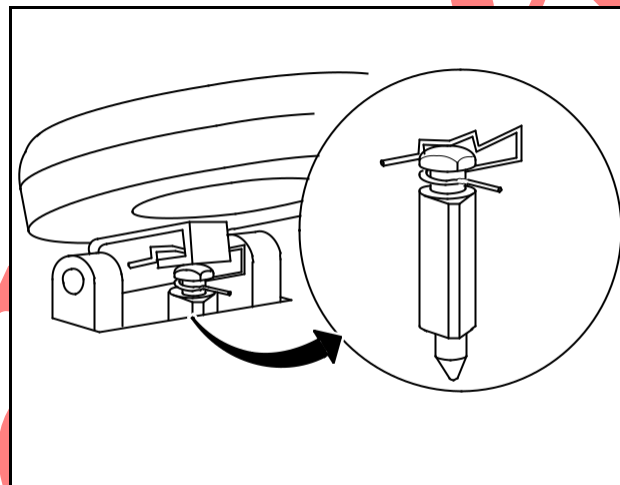

Fig. 288 - INSTALLING FLOAT AND INLET NEEDLE
6. Install inlet needle as shown in Fig. 288. Hook on spring must face away from venturi.